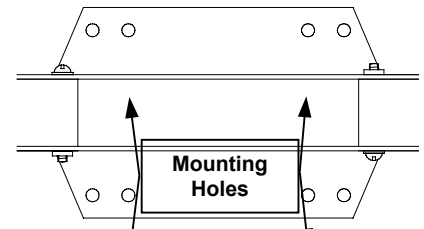

Figure C.6-10: Model 10XR-UT Blinder Mounting Holes
- 3) Align the Horn Blinder with the inner holes over the bezel retaining holes {Figure C.6-10}.